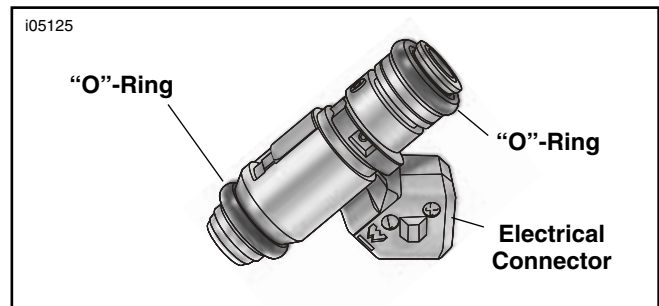

Figure 1. Fuel Injector
5. See Figure 1. Remove and discard the two "O"-rings from each of the fuel injectors.
6. Apply a thin coat of clean engine oil to the new fuel injector "O"-rings (1) from the kit. Install the "O"-rings onto the fuel injectors.